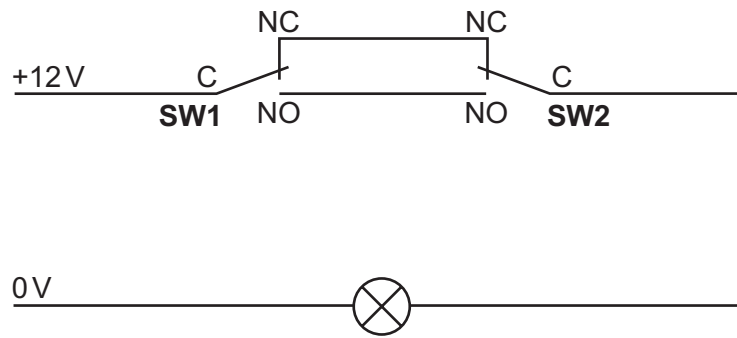

Fig. 12.6
- (e) Fig. 12.6 shows a circuit to allow either one of two switches to control a single lamp. Each time a switch is operated the state of the lamp will change.